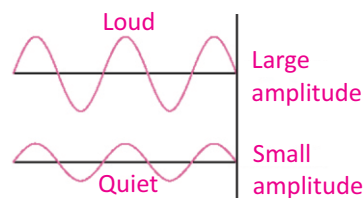

Fig. 11.7: Variation of loudness with amplitude
**(a) Amplitude of the vibrating body:** The loudness of the sound varies directly with the amplitude of the vibrating body (Fig.11.7). The sound produced by a sitar will be loud if we pluck its wires more violently. Similarly, when we beat a drum forcefully, the amplitude of its membrane increases and we hear a loud sound.